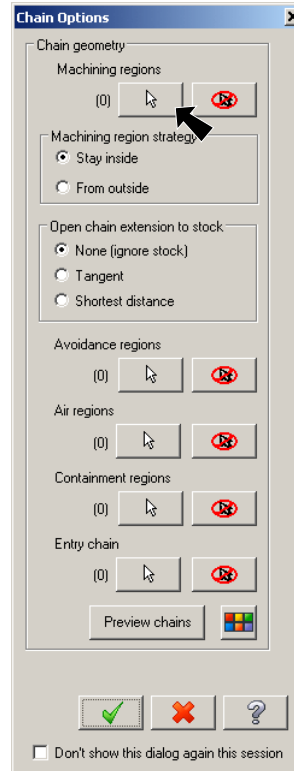

Fig. 42
Step 3. Select **Machining regions**  button in Chain Options dialog box, **Fig. 42**.